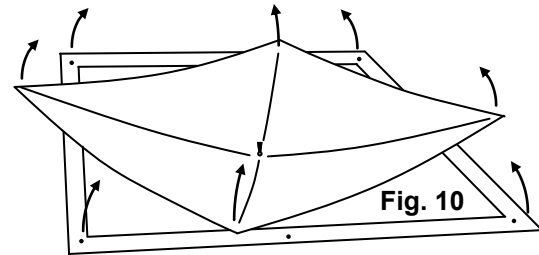
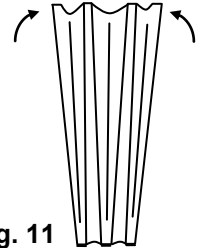

Fig. 10
Fig. 11
4) Remove last ice anchor and fold all corners up. (Fig. 10) & (Fig. 11)